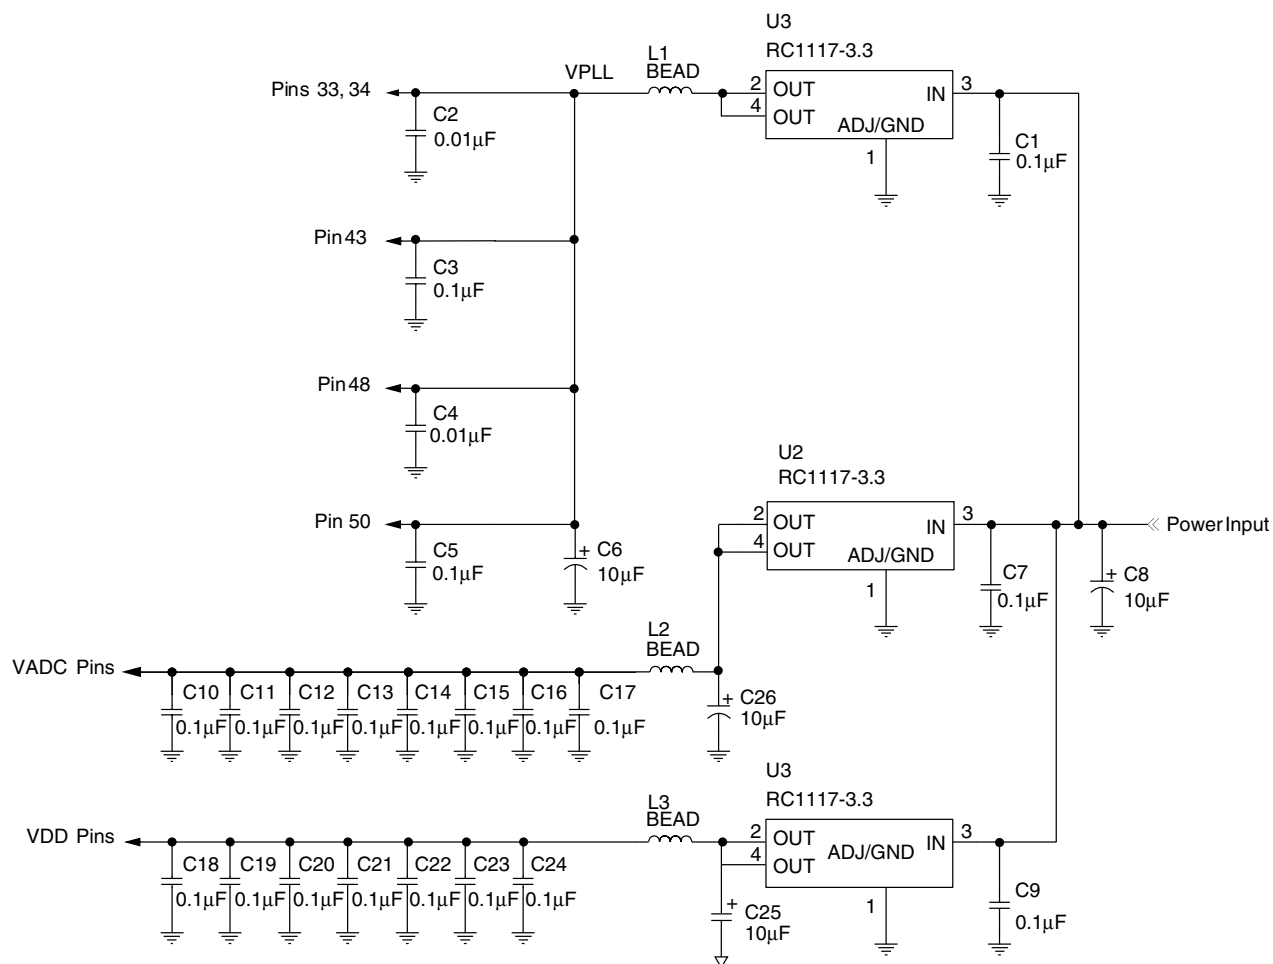

Figure 31. Recommended Power Distribution
A schematic of the recommended power distribution is shown in Figure 31. Note that:
3. Each V_{DDP} /GND pin pair: 33&34/35, 43/42, 48/47, and 50/49 should be decoupled with a 100–1000p/10 μ F pair of capacitors (see Figure 31). If board space is limited, use as many capacitor pairs as possible.